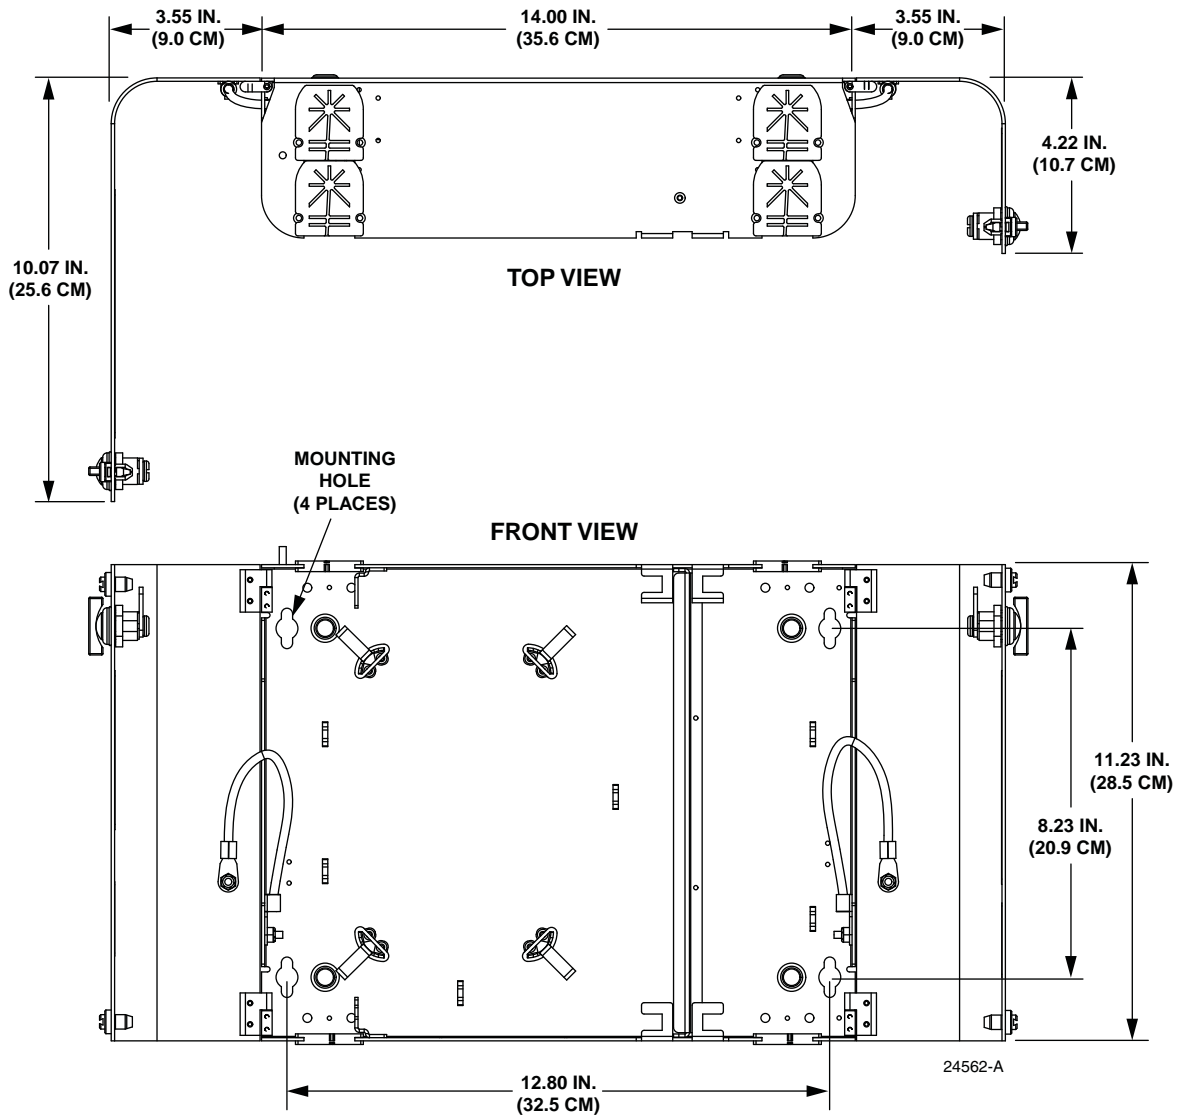
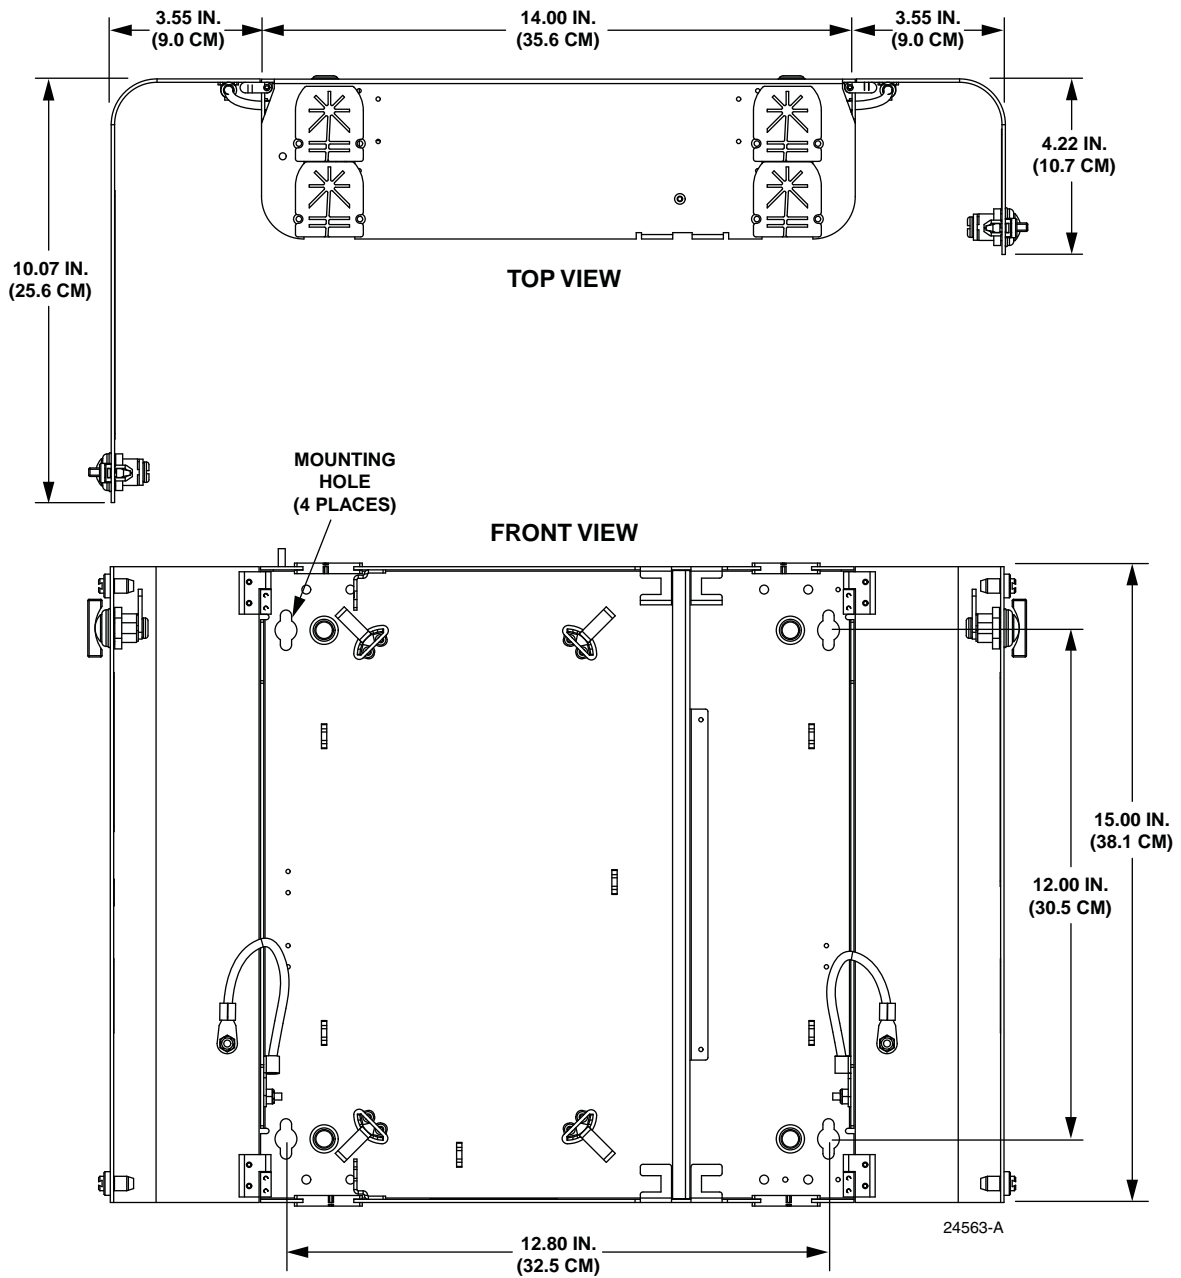

Figure 11. 12-Fiber Wall-Mount Box Dimensions
Figure 12. 24/48 Wall-Mount Box Dimensions
1. Make sure the location provides room for the door to swing out. See Figure 11 and Figure 12.
3. Fasten using the four #10-1.25 inch wood screws provided. See Figure 11 and Figure 12 for mounting hole location.